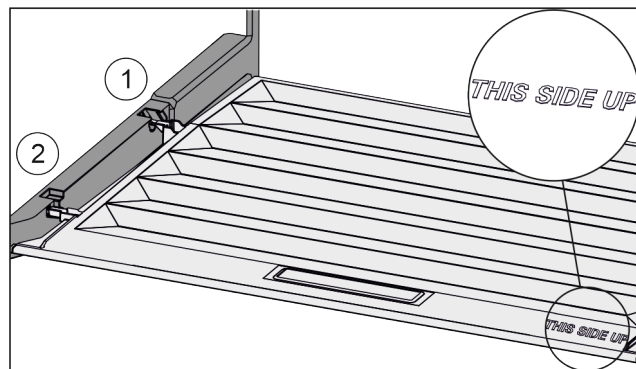

*Fig. 123*
- ▶ Pull the lid up at the front in the retaining parts to the opening *Fig. 123 (1)*.
- ▶ Lift from the back and pull it up and out *Fig. 123 (2)*.